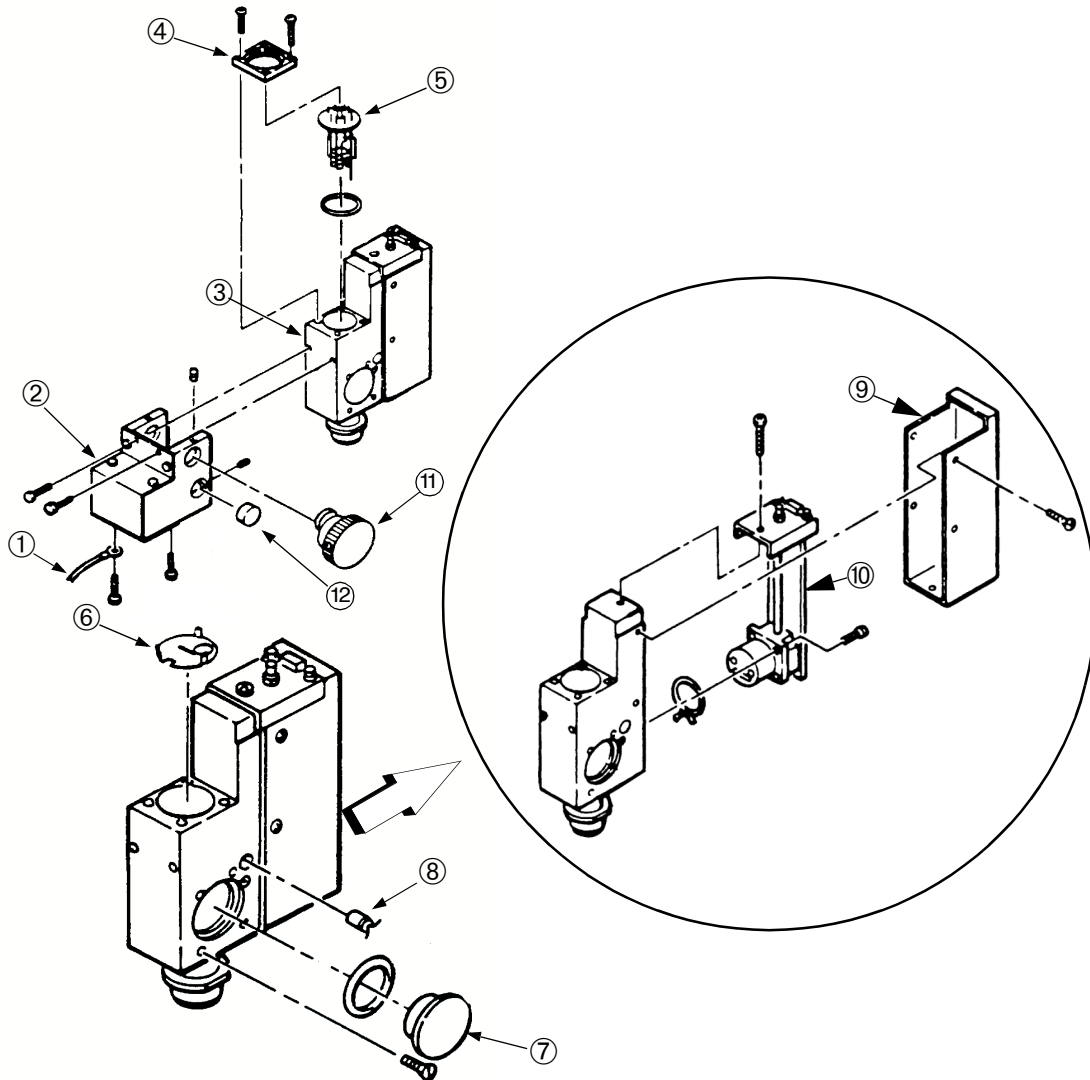

Figure 4-3 Spectrometer Tube Disassembly
1. Remove the four screws on the spectrometer tube (Figure 4-3), noting the placement of the grounding strap ①.